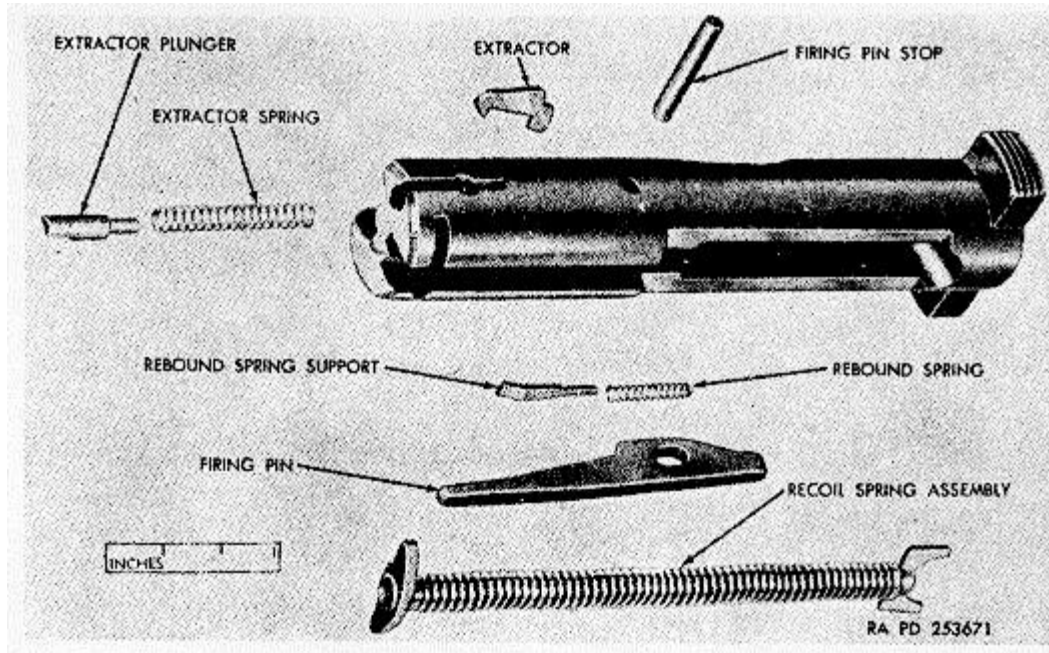

Figure 55. Bolt assembly-exploded view (Ruger).
- (1) Examine mainspring for tension and set.
- (2) Inspect claws on housing for wear.
- (3) Examine housing latch for proper holding to frame.
a. *General.* The bolt assembly (fig. 55) consists of the recoil spring assembly, firing pin, rebound spring support, rebound spring, firing pin stop, extractor, extractor spring, and extractor plunger.
- (1) Lift off the recoil spring assembly (fig. 55) from the top of the bolt.
- (2) Drive out the firing pin stop, and remove the firing pin, rebound spring support, and rebound spring from the bolt.
- (3) Depress the extractor plunger and, while holding the plunger, remove the extractor. Slowly release pressure on the extractor spring, and remove the plunger and spring.
Note. The key letters shown below in parentheses refer to figure 55.